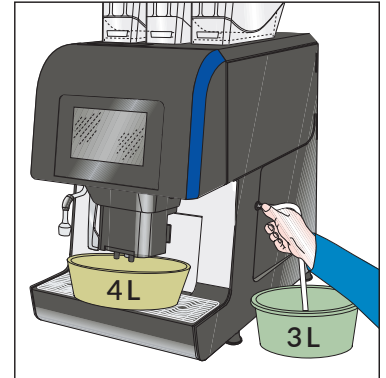

Fig. 1
- 3 Place a container of at least 4 L under the nozzles. (Fig. 1)
- 4 Remove the cooling unit and/or milk container, then place the milk tube in a container of at least 3 L beside the machine. (Fig. 1)